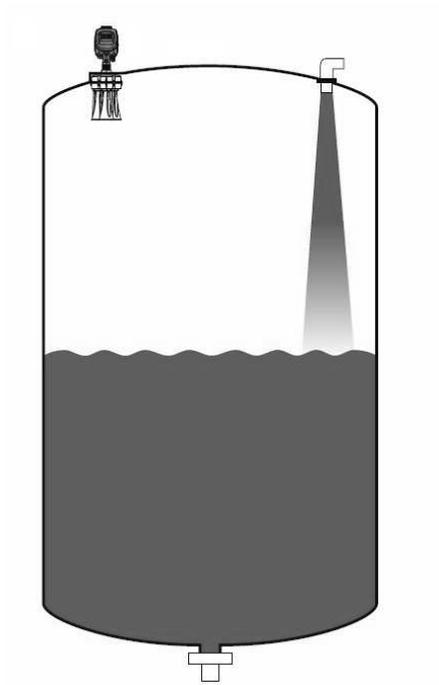

Figure 19 Installation Point
- ⦿ The scanner should be installed as far away as possible from the inflowing material, as shown in Figure 19.